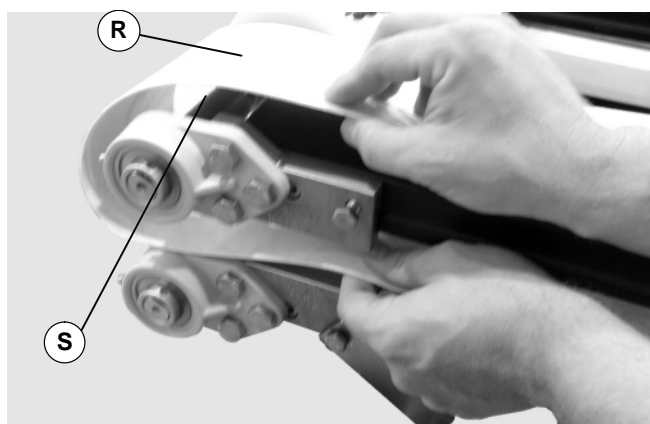

Figure 9
2. Loop belt (R of Figure 9) over drive pulley (S).